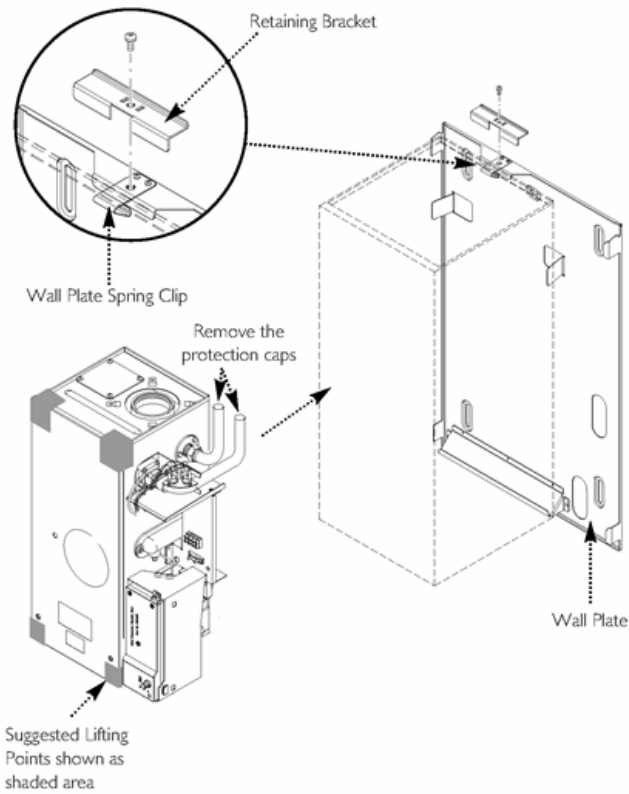

Fig. 24
10.3 Fitting The Boiler (Fig. 24)
2. Offer up the boiler to the wall plate using the lifting points shown in Fig. 24 and locate the rear bottom edge onto the self locating support at the base of the wall plate. (See Safe Manual Handling)
NOTE: When installing in a Loft/Small Compartment, access for lifting the boiler from the front can be gained for two people using the lifting points. (Fig. 24).